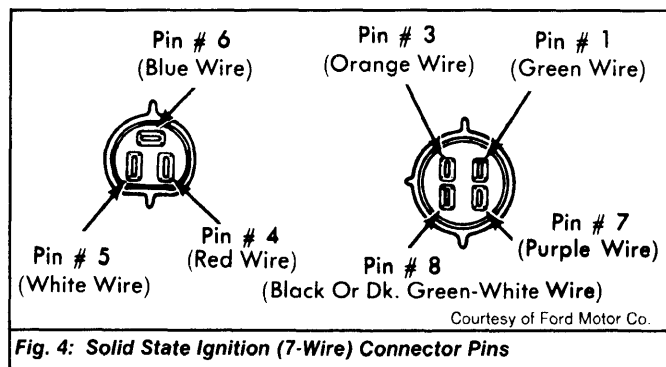

Fig. 4: Solid State Ignition (7-Wire) Connector Pins
With ignition on, measure voltage between Red wire (pin No. 4) and engine ground. See Figs. 4 and 5. If voltage is less than battery voltage, repair Red wire between ignition switch and control module.
- 1) Disconnect distributor 2-wire or 3-wire pigtail. Set voltmeter on 2.5 volts scale and connect voltmeter between pins No. 3 and 7. See Figs. 4 and 5. While cranking engine, voltmeter should oscillate.
- 1) With ignition off, check resistance between pins No. 3 and 7. See Figs. 4 and 5. Reading should be 400-800 ohms. Check resistance between pin No. 8 and engine ground. Reading should be zero ohms.
Connect jumper wire between pins No. 1 and 8. See Figs. 4 and 5. Check voltage between coil "BAT" (positive) terminal and engine ground. If reading is less than 6 volts, ignition by-pass circuit is open or grounded. Repair primary circuit as necessary.
Check resistance between pin No. 1 and engine ground. See Figs. 4 and 5. If reading is less than 4 ohms, check for a short to ground at coil terminals and in primary circuit wiring. Repair primary circuit as necessary.